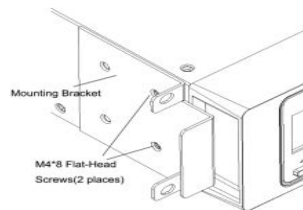

Figure 2 Installing the Mounting Brackets
- g) Align the mounting brackets with the screw holes on each side of the UPS and secure them using the supplied M4×8 flat-head screws (see Figure 2).